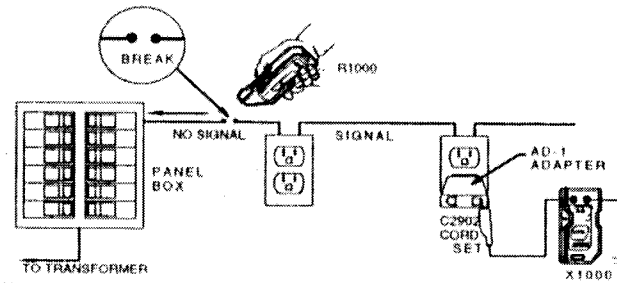

FIG. 10. TRACING
- Using the C2902 Cord Set, connect the X1000 Transmitter to the open conductor and a separate ground as shown in Fig 10. Use the AD-1 if applicable.